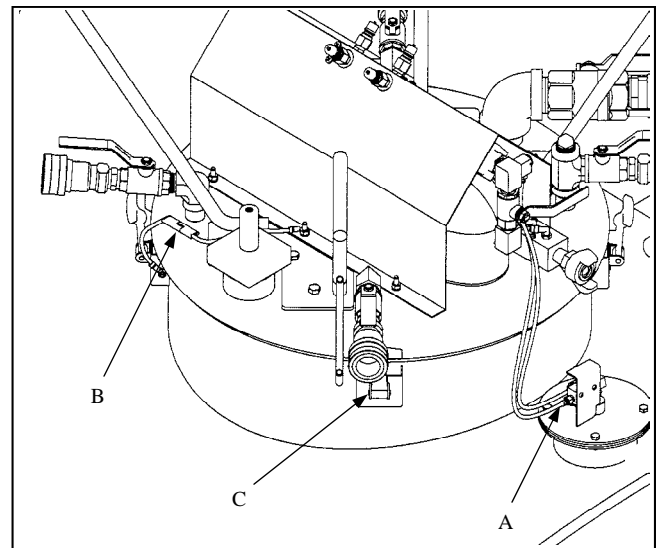

Figure 4-10. Accessing the Sediment Chamber
- c. Ensure Tank Drain Valve (2) is closed.
- d. Remove cam lock plug (3).
- g. Open Tank Drain Valve (2).
- h. Open Funnel Isolation Valve (3).
4.9.4 Checking the Sediment Chamber. The Sediment Chamber collects foreign objects/debris (FOD) from the fuel being extracted by Vacuum Draining and Depuddling modes. To check for FOD, follow these steps. Use Figure 4-10 while performing this steps.